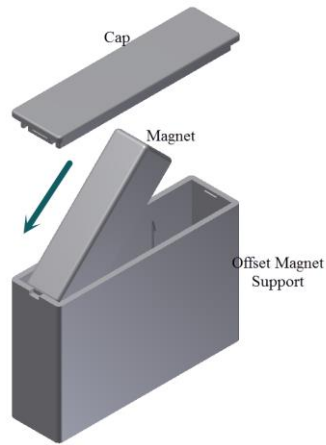

Figure 14
4. Take the offset magnet support, cap and the magnet. Push one end of the magnet into the opening in the offset magnet support, holding the magnet at an angle as shown in figure 14. Push the remainder of the magnet down into the opening to seat on the internal supports.